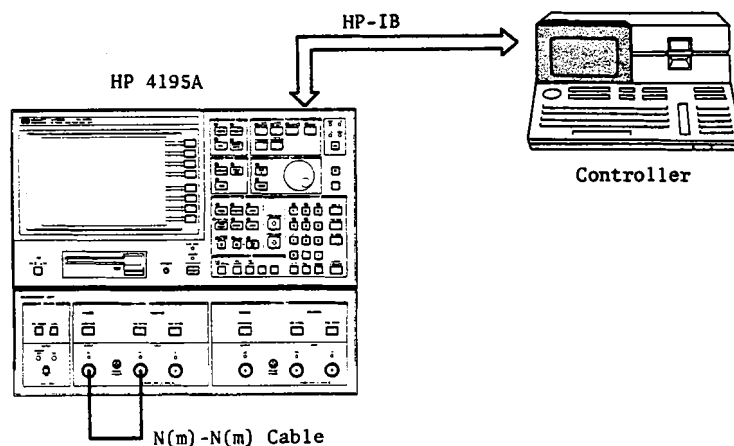

Figure 3-150. Signal Source Linearity Calibration Setup
2. Connect an N(m)-N(m) cable from OUTPUT S1 to INPUT R1, as shown in Figure 3-150.
2. Connect an N(m)-N(m) cable from **OUTPUT S1** to **INPUT R1** connector, as in the Signal Source Linearity Calibration as shown in Figure 3-150.